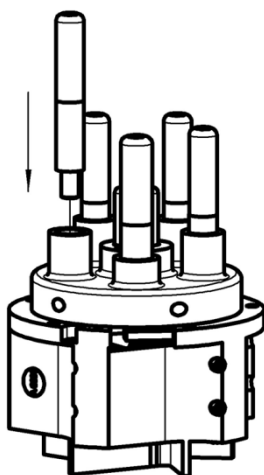

Fig. 73: Inserting the contact pin
2. Insert the new contact pin (Fig. 73).